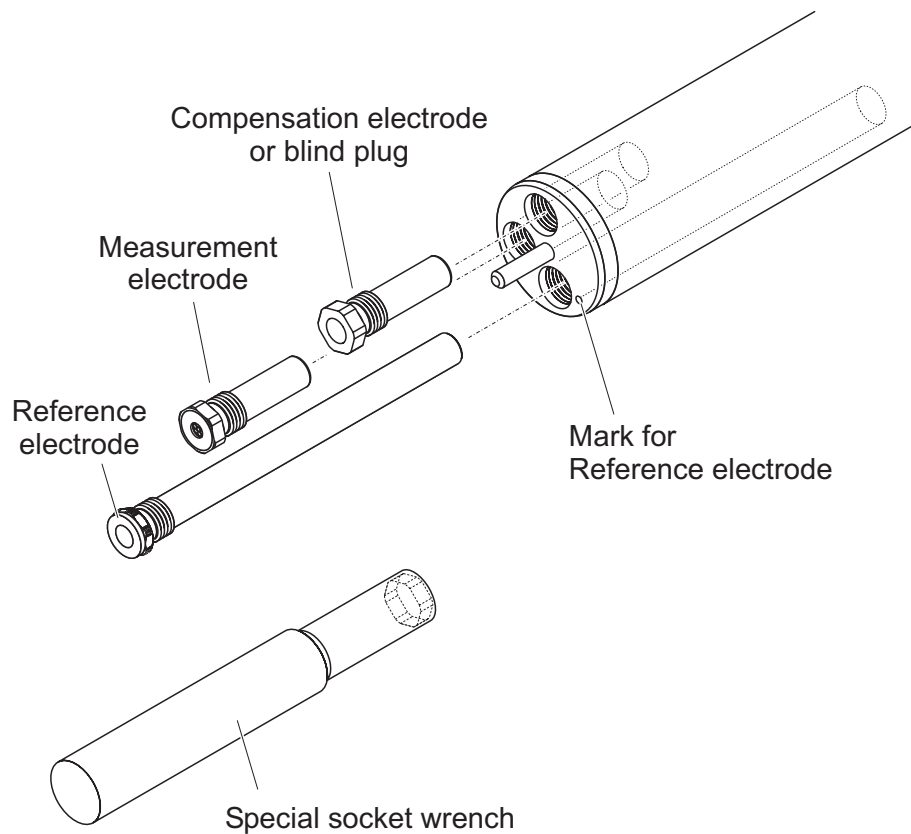

Fig. 3-3 Equipping the sensor with electrodes.
- The receptacle for the reference electrode is marked by a recess. It extends into the inside of the sensor clearly deeper than the other two receptacles (see Fig. 3-3).